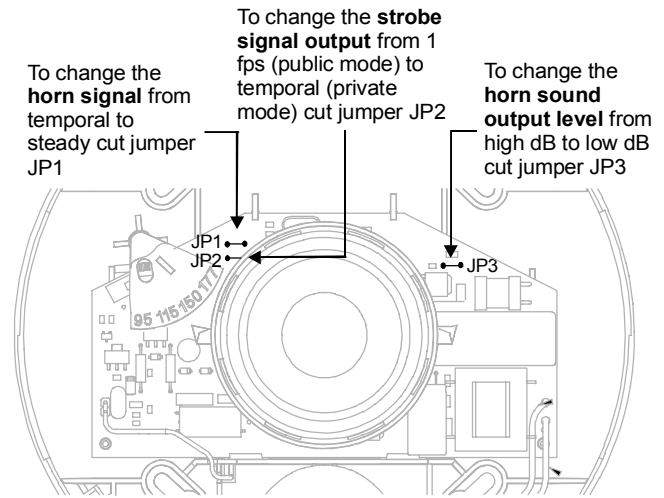

Figure 2: Horn and strobe settings
2. Set the horn signal, sound output level, and strobe signal to desired settings. See Figure 2.